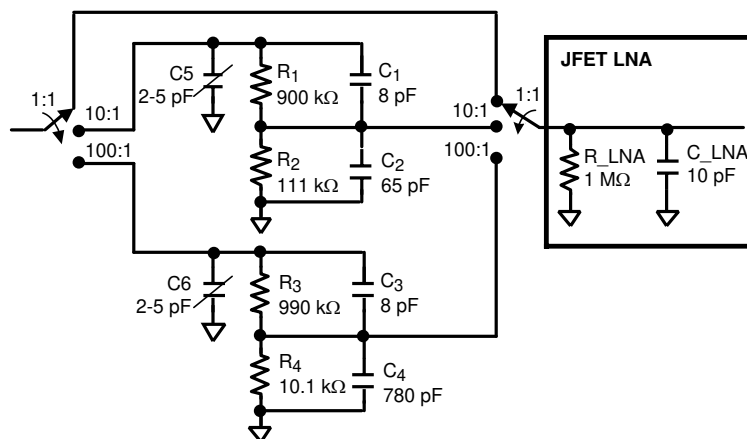

図 7-12. Front-End Attenuator for JFET LNA Implementation
- Low noise (< 0.98 nV/ $\sqrt{\text{Hz}}$) to reduce the impact on the LMH6518 noise figure. Be aware that 図 7-1 does not show the necessary capacitors across the resistors in the front-end attenuators (see 図 7-12). These capacitors provide frequency response compensation and limit the noise contribution from the resistors so that the resistors do not impact the signal path noise. For more information about front-end attenuator design, including frequency compensation, see セクション 8.2.1 for additional resources.
図 7-12 shows a front-end attenuator designed to work with 図 7-11.